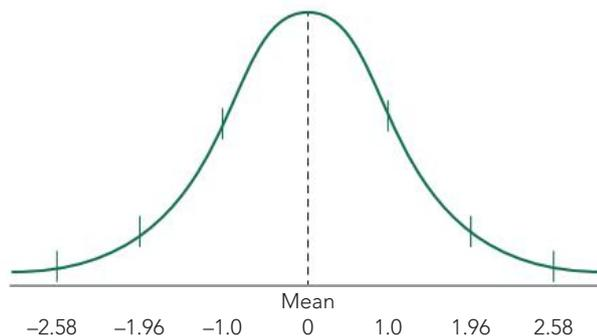

Figure 2.15 Probability and the normal distribution
Refer to Figure 2.15, which indicates probability values under the normal curve. By definition, the area under the curve is unity (1). The deviation of z going from 0 to 1 is 0.3413 by definition, and for z to go from 0 to -1 is also 0.3413. Consequently, the area under the probability curve for $-1 < z < 1$ is 0.6826. The area beyond this is $1.0 - 0.6826 = 0.3174$, or approximately one-third. Thus, the probability of a random value deviating by more than 1 unit from the mean in a normal distribution is less than one-third.